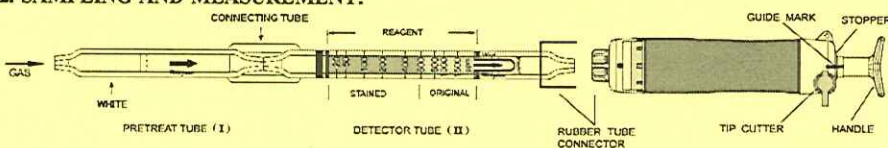

Fig.1
- ① Break both ends of the pretreat tube (I) and detector tube (II), and connect each end of the pretreat tube (I) and detector tube (II) with connecting tube as shown in Fig. 1.
- ② Insert the detector tube (II) into the aspirating pump securely as shown in Fig.1. (Arrow marks shall point to the pump.)
- ③ Align the guide marks on the shaft and stopper of the aspirating pump.
- ④ Pull the pump handle at a full stroke until it locks and wait for 1.5 minute or until the completion of sampling is confirmed with the flow indicator of the pump. (See descriptions about the flow indicator in the instruction manual of the pump.)
- ⑤ On completion of sampling, read the scale at the maximum point of the stained layer.
- ① Temperature; Correct the tube reading by following temperature correction table.